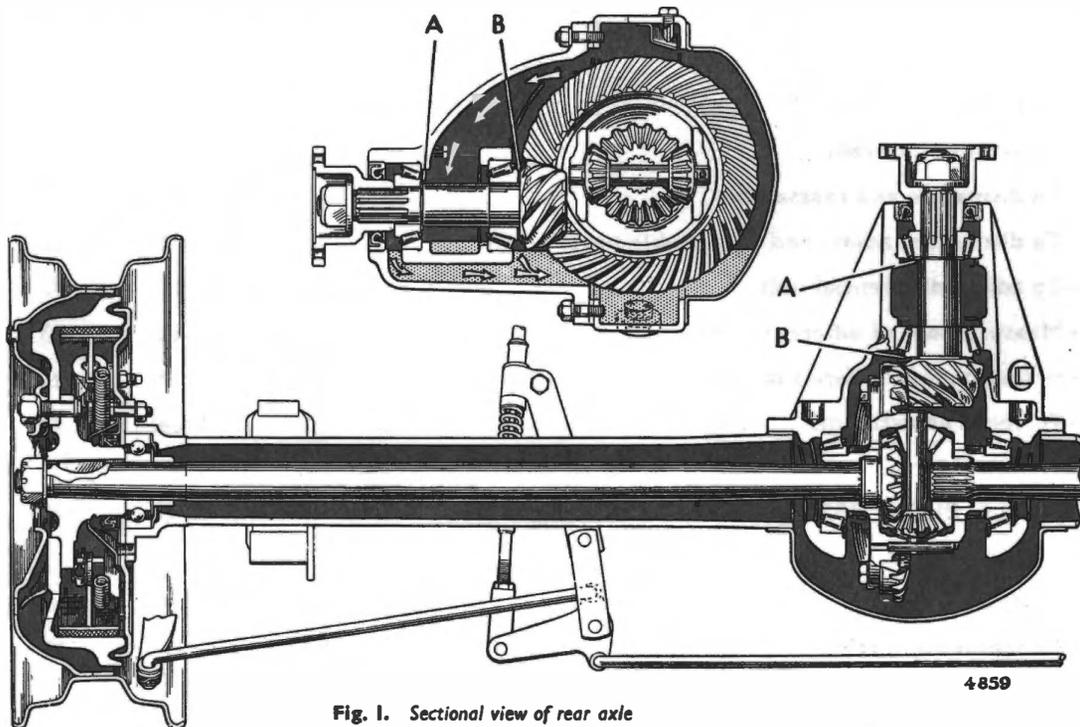

Fig. 1. Sectional view of rear axle
(Figs. 1 and 3)
HUB OIL RETAINERS (Figs. 1 and 3)
Fit outer member of splash guard (38), into bearing recess (Fig. 1), with recessed centre inwards. A little grease smeared around the housing will help to keep the guard in place whilst entering the shaft and bearing.
Rear hub bearings—To remove from axle shaft and refit (See Figs. 1 and 3)